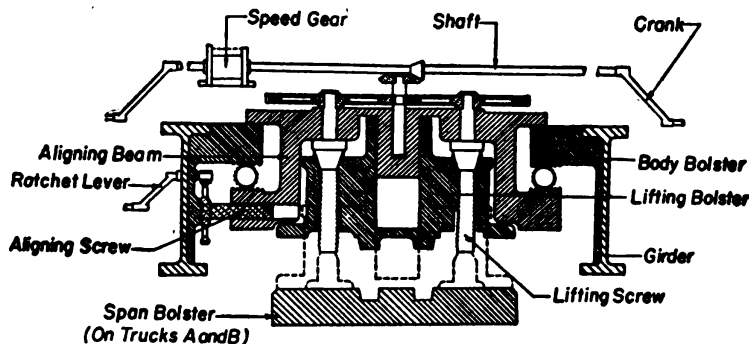

FIGURE 6.—Mount raising and aligning mechanism, 14-inch railway gun.
*Q.* How is the mount lowered when using power? *A.* The traveling stops at both ends of the girders are withdrawn by turning the appropriate handwheels on each body bolster (see fig. 6). The clutch levers which are on the left side of each body bolster are set at the position marked "Motor." The control shaft of the A-end of the hydraulic speed gear, located near the top carriage raising motor, is placed in the neutral position. The top carriage raising motor is started by shifting the clutch lever located at the front of the right raising gear bracket to the position marked "Power raise or lower mount on trucks." The main line switch in the control panel is closed, and the handle of the drum controller is turned in a clockwise direction as far as it will go. The motor and the A-end of the speed gear will now be running at full speed. The control shaft of the A-end of the speed gear is turned in the direction indicated for lowering. It is probable that one end of the mount will be lowered before the other, but the automatic stops will prevent damage to the mechanism.
traveling stops are withdrawn by turning the appropriate hand-wheels on each body bolster (see fig. 6). The clutch levers which are on the left side of each body bolster are set at the position marked "hand." The cranks are turned in the direction indicated on the direction plate to "lower." Four men are required on each crank.
**Q.** Describe the setting of the outriggers. **A.** When the wooden floats have been placed, the six outriggers are swung into position in the sockets of the floats and the ends are screwed to a solid bearing. The wooden floats are banked and tamped. If the ground is soft the outriggers may not hold and it will be necessary to brace them with bridge timbers. When the outriggers have been screwed to a solid bearing in the steel floats the mount is slowly lowered until the lifting bolsters (see fig. 6) are just touching the center plates of the span bolsters. The lifting bolsters are then run down until they just make contact with the span bolsters. The speed gears are stopped by turning the control shaft on the A-end to the neutral position.